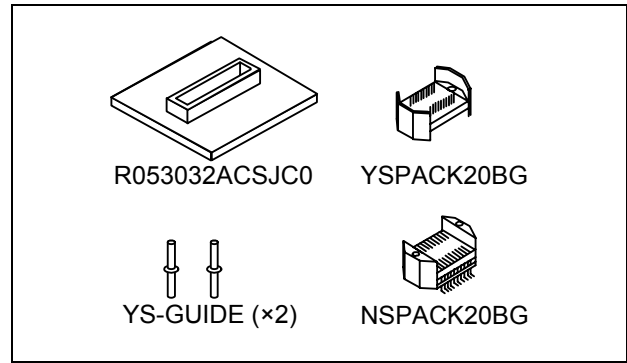

Figure 1 Package components of the R0E53032ACSJC0
2. Package Components (See Figure 1)